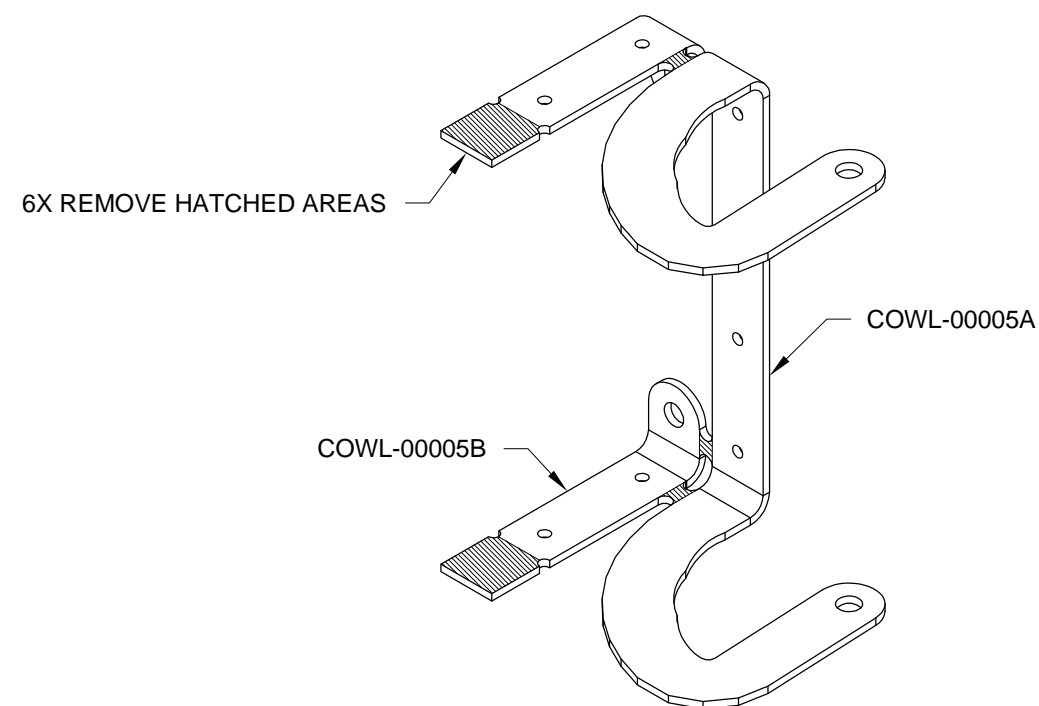

FIGURE 2: SEPARATE THE OIL DOOR HINGE
Step 1: Separate the COWL-00004 Oil Door and COWL-00005 Oil Door Hinge as shown in Figure 1 and Figure 2.
Step 4: Insert a camloc fastener into each camloc hole in the top cowl. Place one or more washers between the camloc fasteners and the top cowl to create a tighter grip. **DO NOT** install the camloc retaining washers at this time. Compress the camloc fasteners in order to insert them. See Figure 2.
Step 9: Machine countersink the camloc receptacle rivet holes in the top cowl as shown in Figure 2.